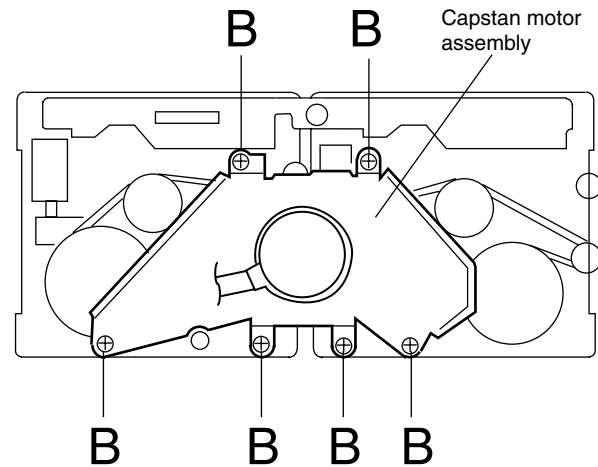

Fig.5
■ **Removing the capstan motor assembly (See Fig.5 to 7)**
- 1.Remove the six screws "B" retaining capstan motor assembly (See Fig. 5).